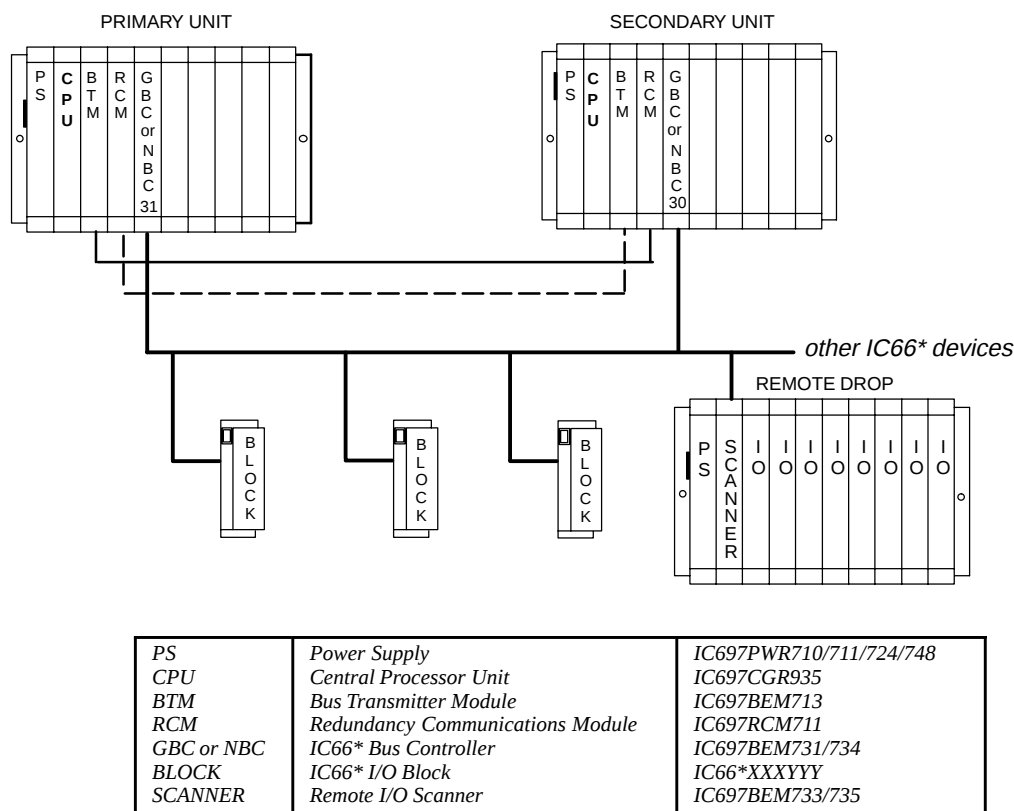

Figure 1. Typical Hot Standby CPU Redundancy System Configuration
The CGR935 is used as the controller in a CPU Redundancy system. Two redundancy control methods can be configured using the CGR 935. The GHS method (IC660/661 Hot Standby) uses multiple single bus IC660/661 I/O networks with one redundant controller in each synchronized PLC. The GDB method uses multiple I/O networks with either single or dual busses in each synchronized PLC with the capability of either unit being activated with bumpless switch. The location of the CGR935 modules in a *typical* Hot Standby CPU Redundancy system is shown in Figure 1.
- Install in slot 1 of rack 0. (See Figure 1)
The programmer connects to the top port on the Bus Transmitter Module (IC697BEM713) for a parallel interface (MS-DOS programmer only) as shown in Figure 1.